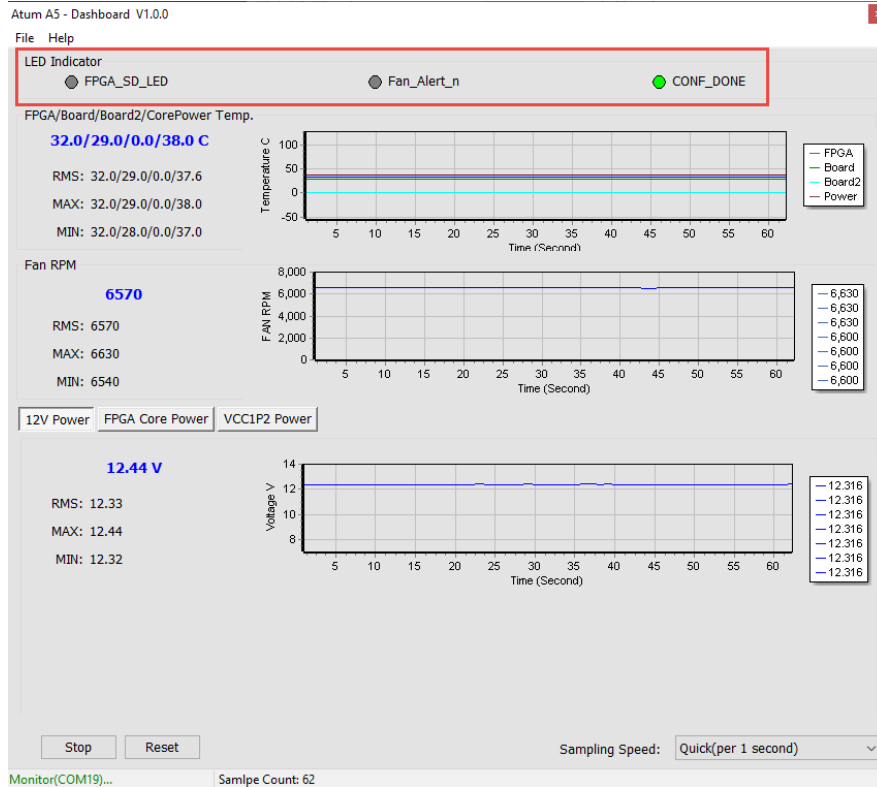

Figure 3-8 FPGA Status section
- **CONF_DONE** :As shown in **Figure 3-8**, once you press the “**Start**” button, it will show the status LED number on the Atum A5 board. Note that “**CONF_DONE**” stands for FPGA configure done status. There is no LED on Atum A5 board to display FPGA configure status. When this status is shown in green on the GUI, it means that FPGA configuration has been completed.